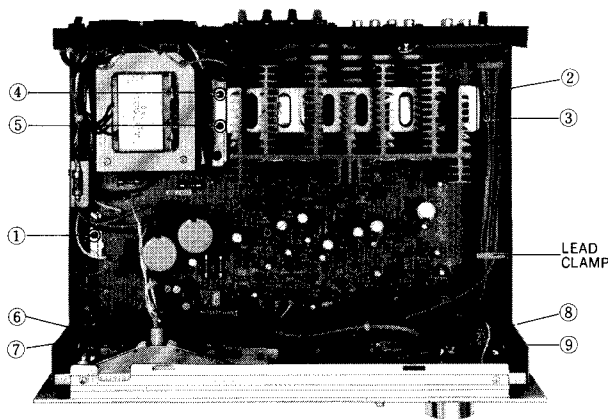

Fig. 2
2. Remove lead wires from lead clamp. (Refer to Fig. 2).
3. Remove a screw and printed circuit board metal clamp. (Refer to Fig. 2: ①).
4. Remove four (4) heat sink-mounting screws. (Refer to Fig. 2: ②~⑤).
5. Remove four (4) panel-mounting screws from chassis. (Refer to Fig. 2: ⑥~⑨, left and right side).